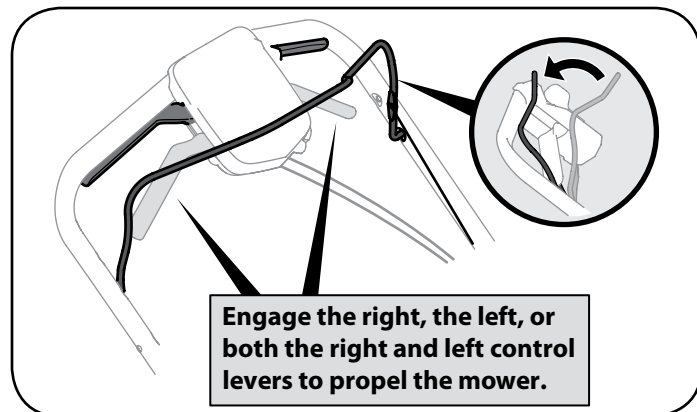

Figure 20
- a. Once the engine is running and while continuing to hold the blade control down, squeeze either (or both) drive controls against the upper handle to propel mower. See Figure 20.